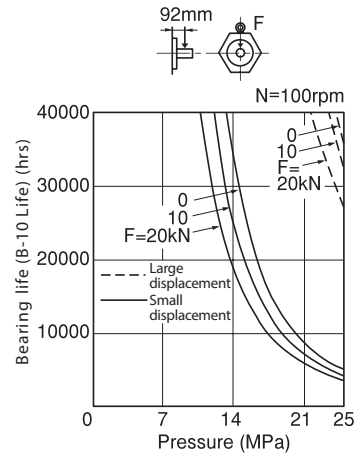

Fig. 3
- In order to maintain the maximum bearing life, when a radial load is imposed on the output shaft the motor should be installed as illustrated in Fig. 2 or Fig. 3.